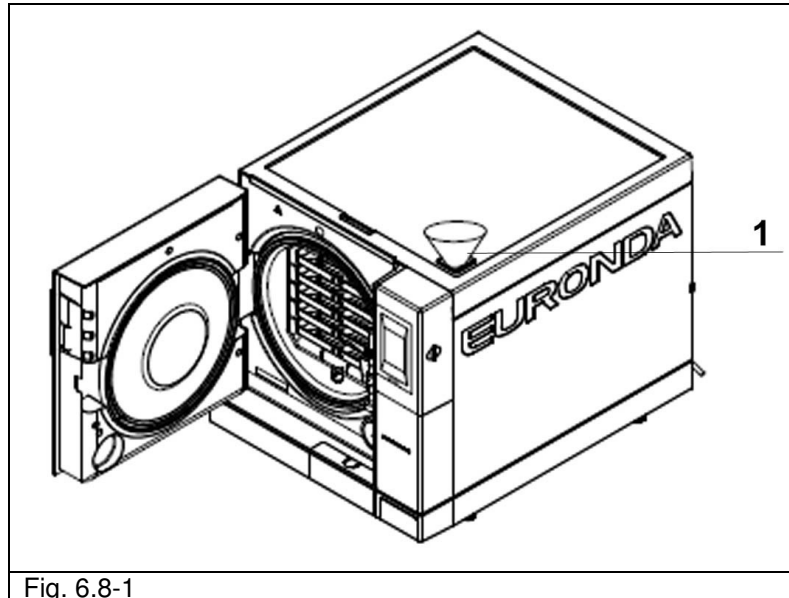

Fig. 6.8-1
2. Open the plug in the upper cover, fit the supplied funnel into the hole (1 in Fig. 6.8-1) and pour in a quantity of distilled water as indicated in chap. 5.3 “Technical data”; never exceed the level indicated with the word MAX in the water filling hole. Water can also be poured in through the deionizer (optional, Appendix 10). To install this optional, consult the respective “Aquafilter” instruction manual supplied with the deionizer.
2. Fill the clean water tank with fresh clean water (1 di Fig. 6.8-1).